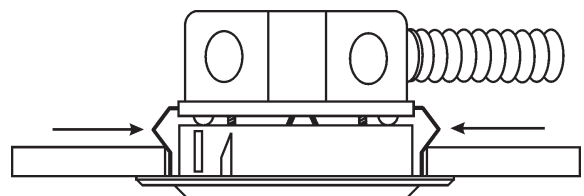

Fig 3: RMK400AP(-IV) Mounted in a Suspended Ceiling
4. Mount the screws to the junction box and pull the wiring through the central hole, using the springs in the bracket to secure the assembly into place, as detailed in Figure 3 **RMK400AP(-IV) Mounted in a Suspended Ceiling.**